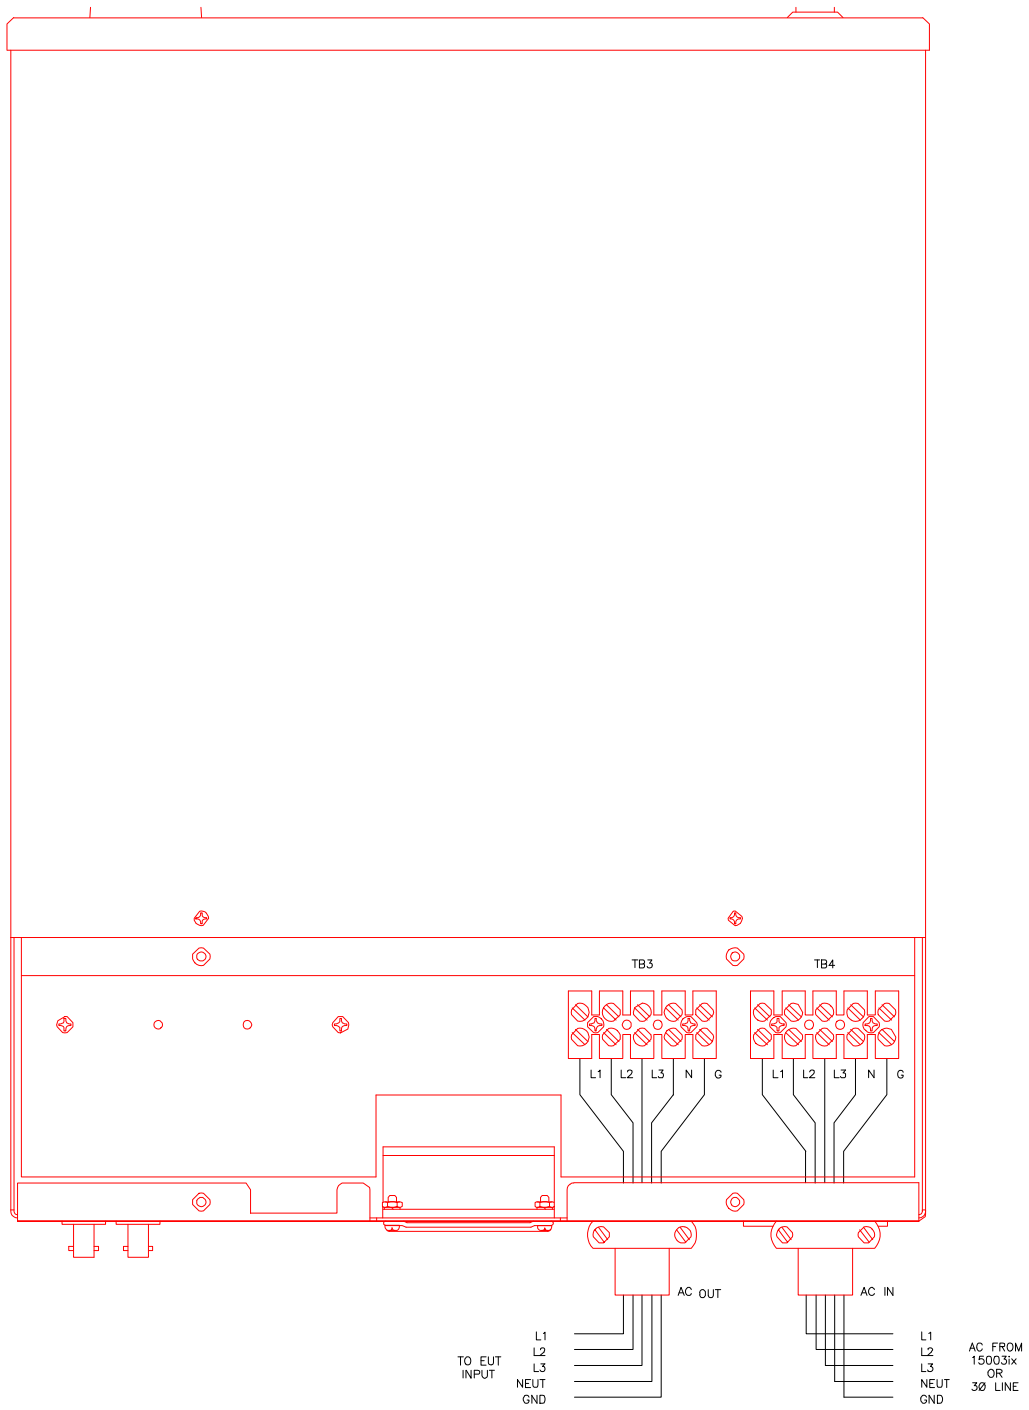

Figure 3-10: Power Connections for PACS-3-75
**Caution:** Be sure to replace the small rear top cover on the PACS-3-75 unit after the wiring has been installed, otherwise insufficient cooling of internal components may result. Refer to Figure 3-10.